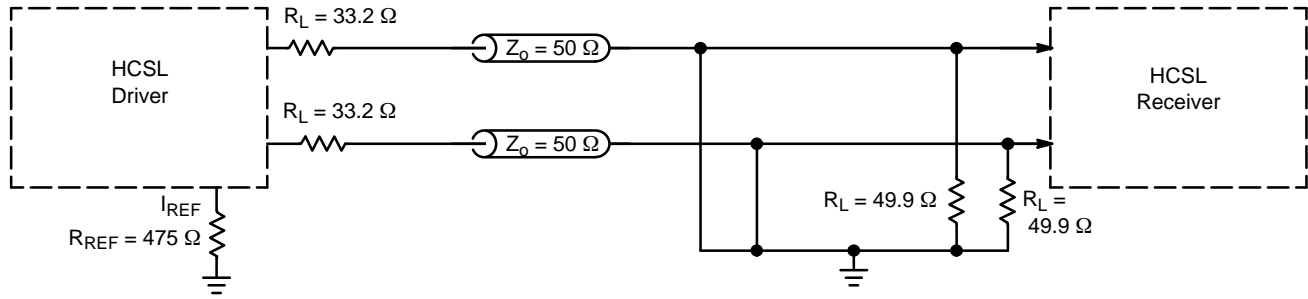

Figure 3. Typical Termination for Output Driver and Device Evaluation
- Measurement taken with outputs terminated with R_S = 33.2 Ω, R_L = 49.9 Ω, with load capacitance of 2 pF and current biasing resistor, R_{REF} from I_{REF} (Pin 9) to GND of 475 Ω. See Figure 3.
7. Measurement taken from differential output on single-ended channel terminated with $R_S = 33.2\ \Omega$, $R_L = 49.9\ \Omega$, with load capacitance of 2 pF and current biasing resistor, R_{REF} , from I_{REF} (Pin 9) to GND of 475 Ω . See Figures 3 and 4.